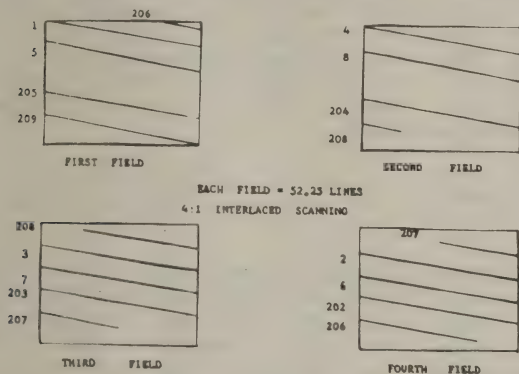

FIGURE 1
(3) The third method, as shown in figure 1, is well suited for the advanced experimenter or where high resolution is desired. Vertical resolution on the order of 100 or more, and a horizontal resolution above 200, is attainable using a 4:1 interlace sync